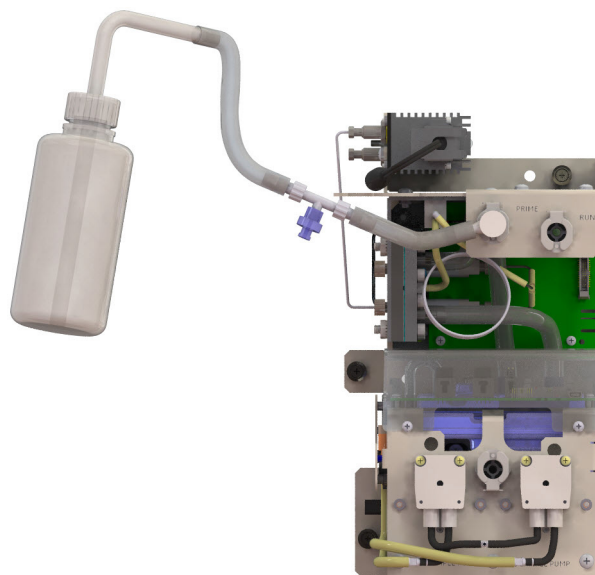

Figure 11: Filling the DI Water Reservoir
5. Insert the elbow-fitting end of the filling fixture (Figure 11).